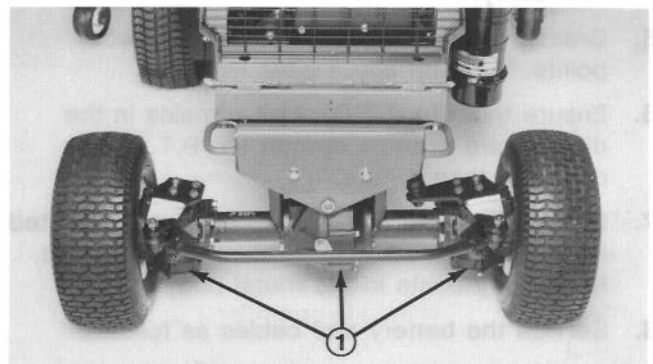

Figure 67
2. Clean area around the (3) drain plugs, (1) on each end and (1) in the center (Fig. 67).